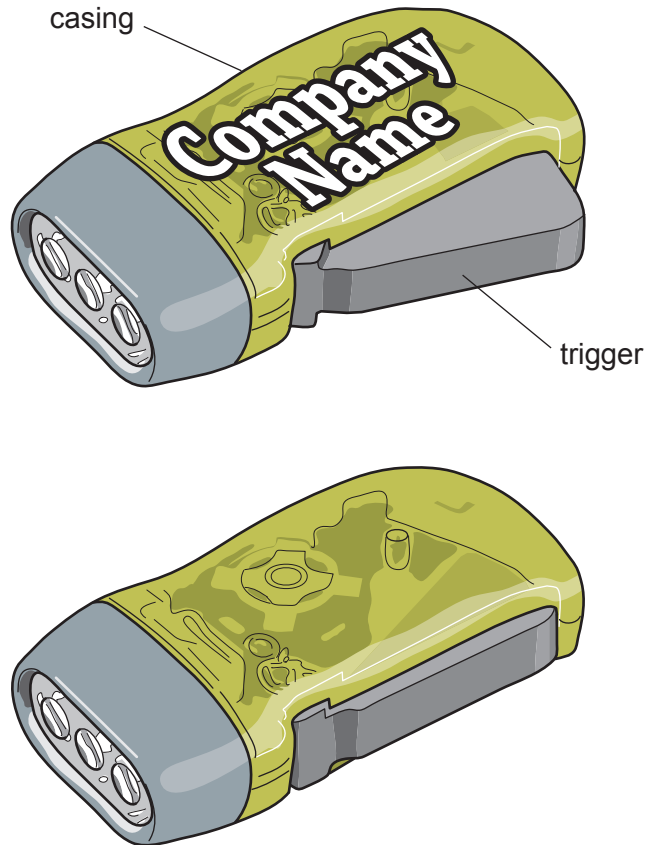

Fig. 1.1
- 1 **Fig. 1.1** shows two images of a wind up torch which can be charged by a user repeatedly pushing the trigger. The torch is designed to be given away free by companies as a promotional product. Companies can personalise the torch by printing their name on the surface.